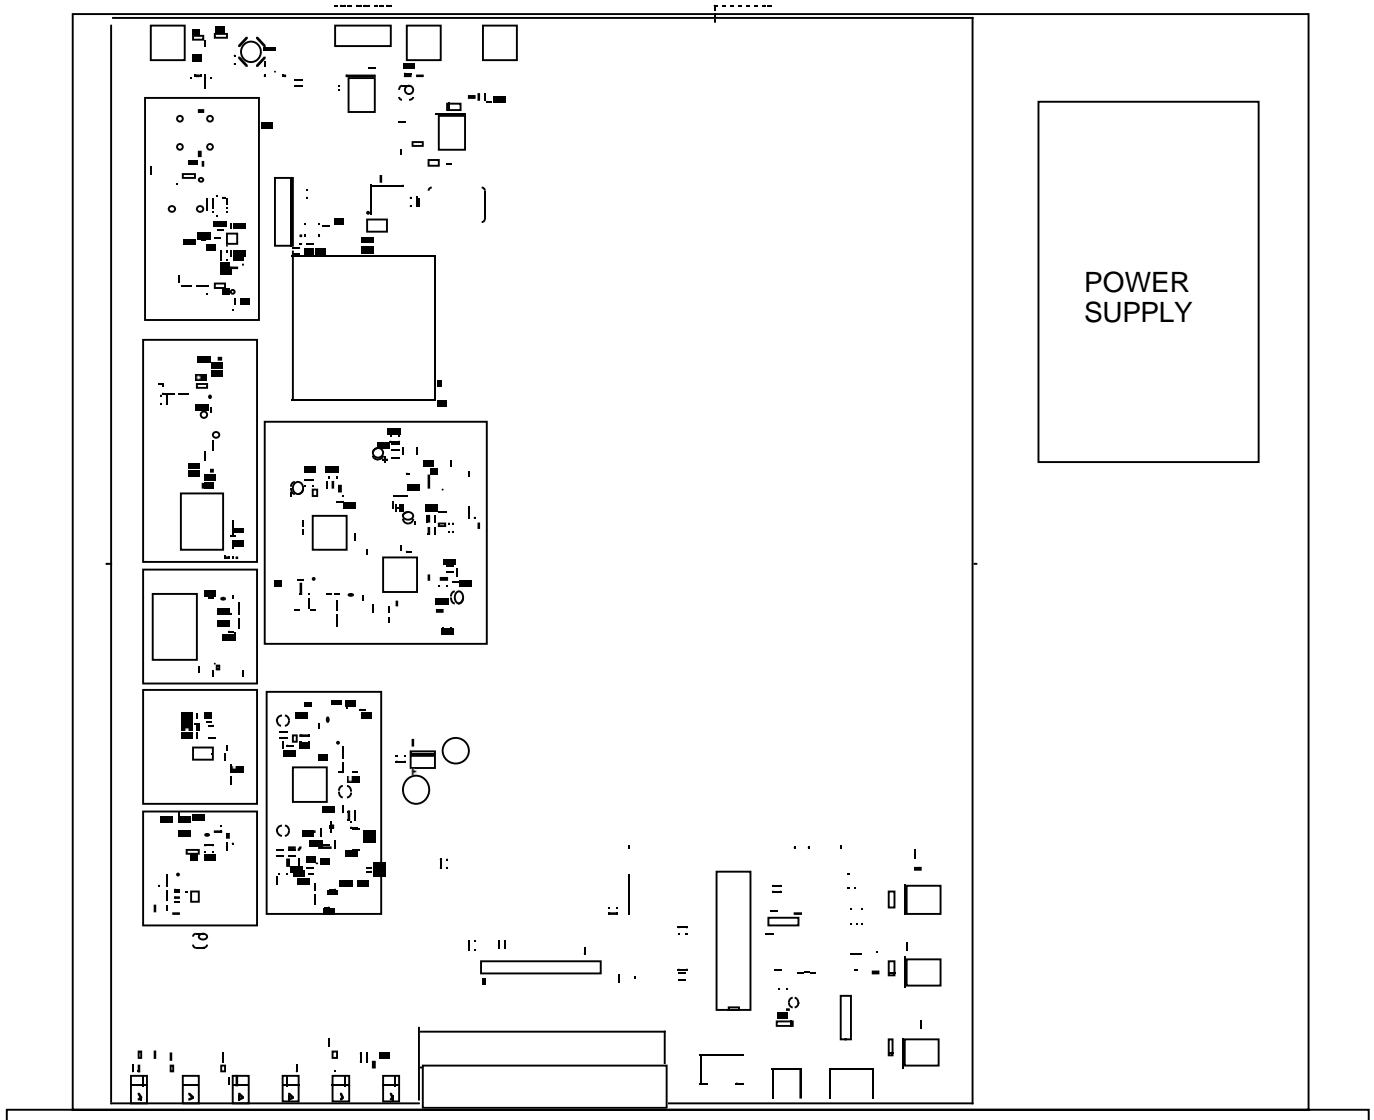

FIGURE 2.1 2015-22 Mechanical Assembly
The 2015-22 consists of one RF/Controller PCB which is housed in a 1 RU (1 3/4 inch high) by 16 inch deep chassis. A switching, ± 12 , +24, +5 VDC power supply provides power for the assembly. The 2015-22 can be secured to a rack using the 4 holes on the front panel. Figure 2.1 shows how the 2015-22 is assembled.
8. Option V ONLY - To insert SSPB +24 VDC on the RF center pin install 2.5A fast blo fuse (included) in F2 and check that DS7 lights yellow (Figure 2.1).